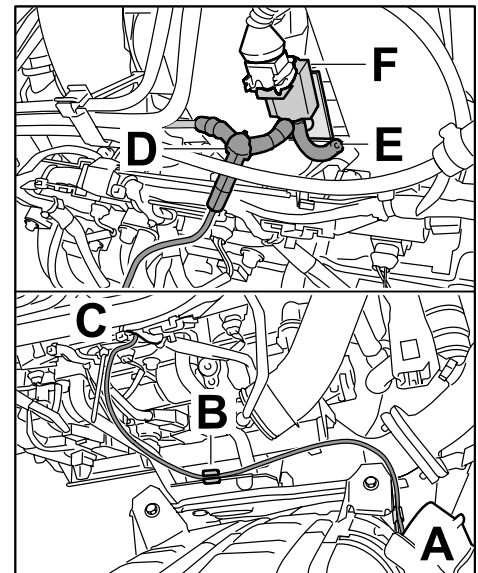

Figure 17
Vacuum unit (⇒ Figure 17 -A-) → hose clip on rear muffler bracket (⇒ Figure 17 -B-) → fuel collection pipe (⇒ Figure 17 -C-) → to Y-piece ⇒ Figure 17 -D-.
- 4.4.3 Attach Y-piece (⇒ Figure 17 -D-) and protective tube (⇒ Figure 17 -E-) bent as shown in Figure 17 (top) to the change-over valve (⇒ Figure 17 -F-).